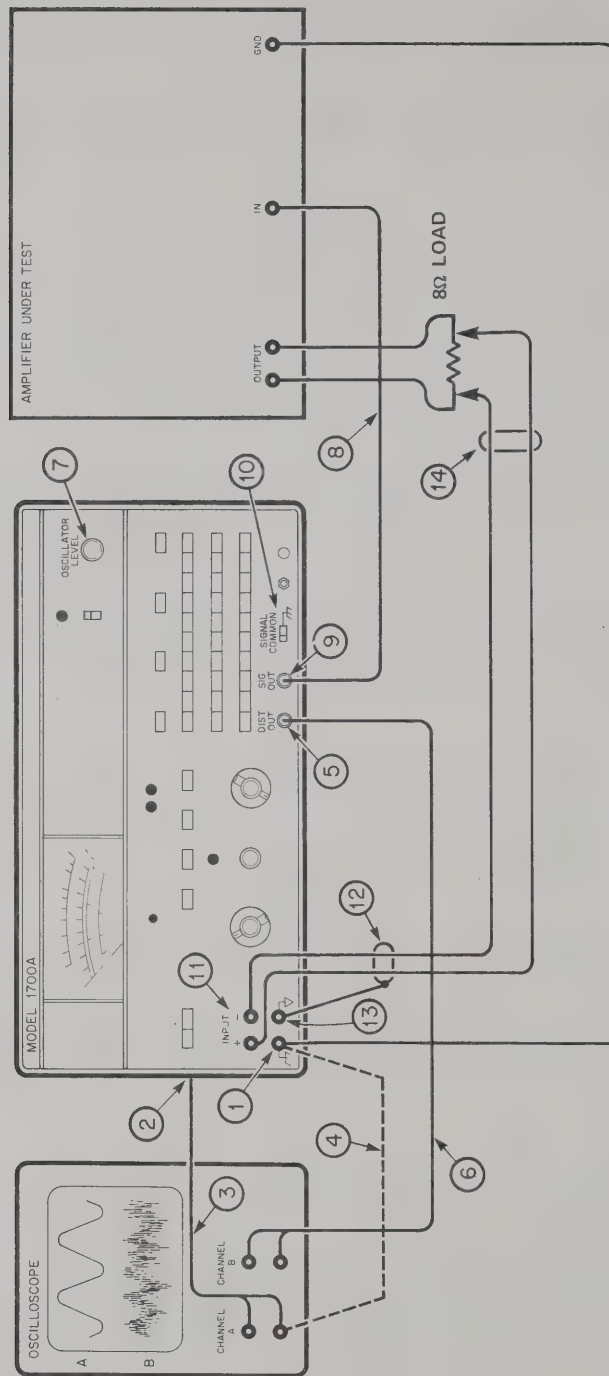

Figure 1-1 Model 1700A Test Setup
In order to take full advantage of the unique ultra-low distortion measuring capabilities of the Model 1700A System it is extremely important that the cabling between the Model 1700A, the amplifier under test, and other test equipment be connected in compliance with the arrangement shown in Figure 1-1 and described in the following paragraphs. The connections and controls numbered in Figure 1-1 are similarly identified in the test. These connections have been found to provide the optimum test setup in most cases.
Before making measurements with the Model 1700A System, ensure that the equipment has been connected as shown in Figure 1-1 and following the instructions given in Paragraphs 1-6 through 1-9.
- a. Connect equipment as shown in Figure 1-1, with the following exceptions: